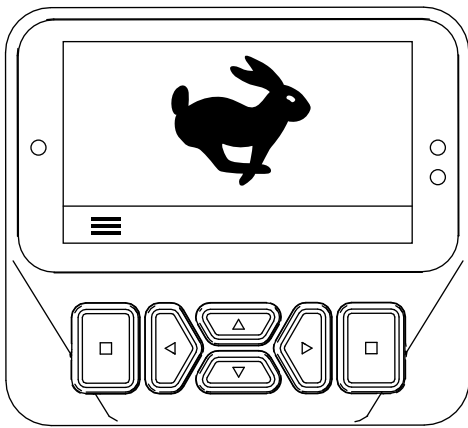

Figure 77
**Note:** The InfoCenter displays the TRANSPORT icon (Figure 77).